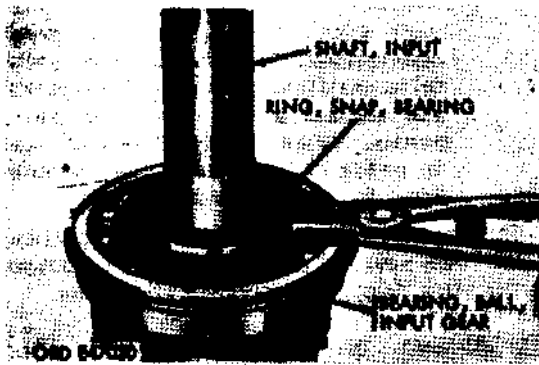

Figure 274. Disassembling input shaft assembly
(1) Input shaft assembly.
- (a) Remove bearing snap ring (fig. 274) securing input shaft ball bearing to input shaft. Use a universal puller to pull input shaft ball bearing from input shaft.